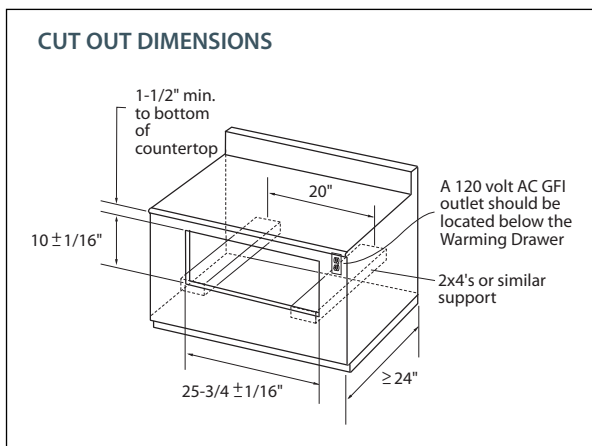

Fig. 04
The cabinet depth from the outer edge of the face frame to the inside back of the cabinet or wall should be at least 24" (see Fig. 04).
**The floor of the opening should be constructed of plywood strong enough to support the weight of the Warming Drawer (or use 2x4 construction - see fig. 04)